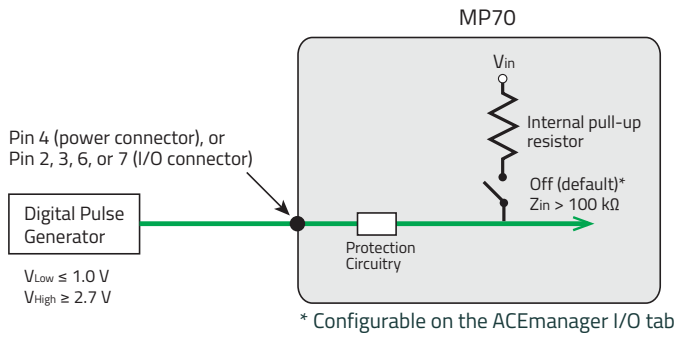

Figure 2-10: Digital Input / Pulse Counter
- Pulse counters: See Table 2-4 on page 24 and Figure 2-10 on page 24.